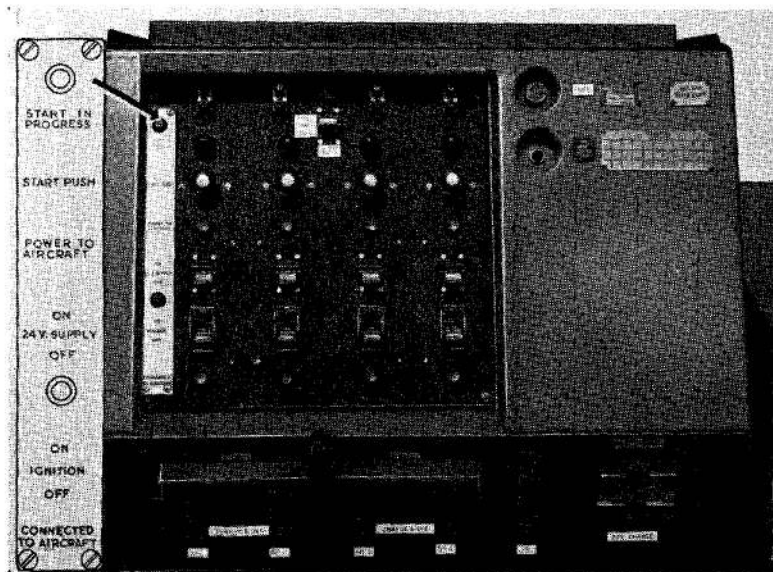

Fig. 5. Control panel
8. To permit battery charging from a standard servicing trolley having a 112V and 28V supply, each 120V battery is divided into two sections. One section comprising four batteries which are charged from the 112V supply; the remaining battery, lettered A in each bank, is charged from the 28V supply. The START/CHARGE and OFF switches, also shown in *fig. 5*, effect the necessary alteration to the battery connections. The covered N.A.T.O. plug charging points may be seen to the right of the switches in this figure. Charge limiting resistors are included in the charging circuits to afford some protection to the batteries in the event of an unnoticed upward drift in the charging supply voltage.
battery marked 24V (*fig. 3*) provides the normal supply to the control and start panels. An emergency supply for this service is provided by tapping a 24V supply from the batteries at the lower end of the 120V banks, i.e., those lettered "A". Changeover is brought about by placing the MASTER SWITCH (*fig. 5*) to EMERGENCY.
11. The control panel, which is standard for all types of trolley and is shown in *fig. 5*, carries the individual control switches and starter buttons together with three indicating lights for each of the four engine starting circuits. These components are identified by the engraved illuminated panel mounted on the left. General illumination is provided by lights fitted at the top of the panel which are controlled by the switch mounted on the right, and protected by the 2.5A fuse immediately above it. Mounted centrally at the top of the panel are a MASTER SWITCH and its green indicator light.
Switch and charging panel (fig. 5)
14. A description of the circuit is given in para. 8. A standard servicing trolley 112V supply should be connected to the 96V CHARGING POINT (fig. 5), and the 28V supply connected to the 24V CHARGING POINT immediately below it. To charge the battery banks numbered 1 to 4 (fig. 4) the four START/CHARGE and OFF switches should be placed to CHARGE and OFF, (down). The 24V battery may also be charged by placing
Aircraft engine starting (fig. 5 and 6)
16. Before connecting the plugs to an aircraft, check the trolley as follows:—Ensure that the four circuit breakers at the top of the control panel (fig. 5) are closed and place all switches listed below in the UP position.